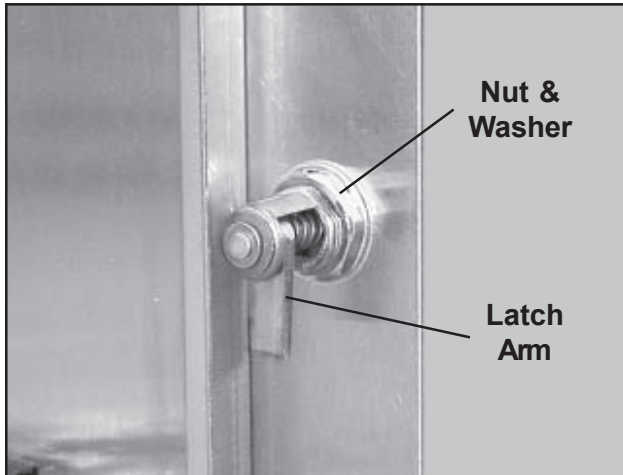

Figure 123. Inside View of Panel Latch
3. With a 11/16-in. wrench, unscrew and remove the nut and washer holding the latch in place (Figure 123).
4. Using tags, masking tape, or any other convenient means, tag the wires with the identification of the terminal to which they attach (Figure 123). Failure to mark the wires will make it difficult to connect them correctly later.